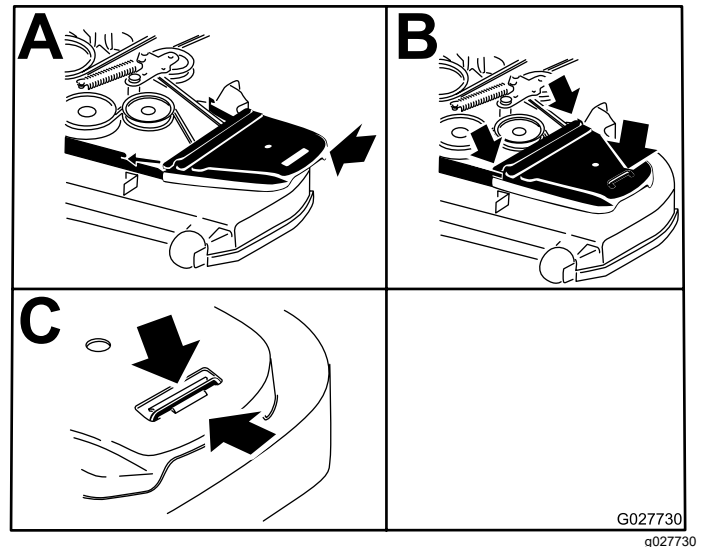

Figure 73
12. Install the belt covers (Figure 73).